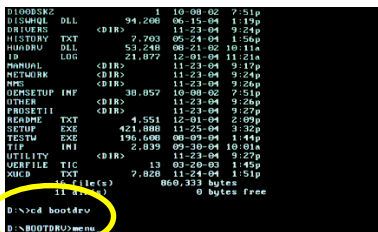

Figure 12
Step 1: Insert the prepared startup disk and motherboard driver CD-ROM in your system. Boot from the startup disk. Once at the A:\> prompt, change to the CD-ROM drive (example: D:\>). At the D:\> prompt, type the following two commands. Press ENTER after each command (Figure 12):